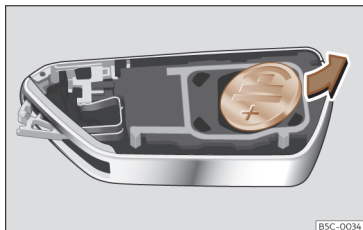

Fig. 75 Vehicle key: removing the battery.
- Extract the battery from the compartment using a suitable thin object >>> Fig. 75.
- Insert the new battery and press it into the battery compartment >>> ①.